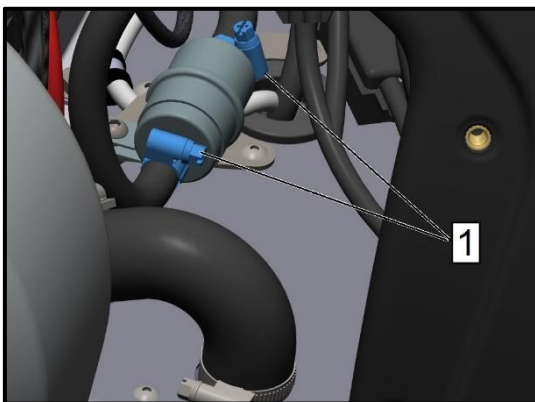

Fig.15
7. Loosen and replace the two clamps (position 1, figure 15) on the hose connected to the fuel filter with a 7 mm slotted screwdriver or end screwdriver.